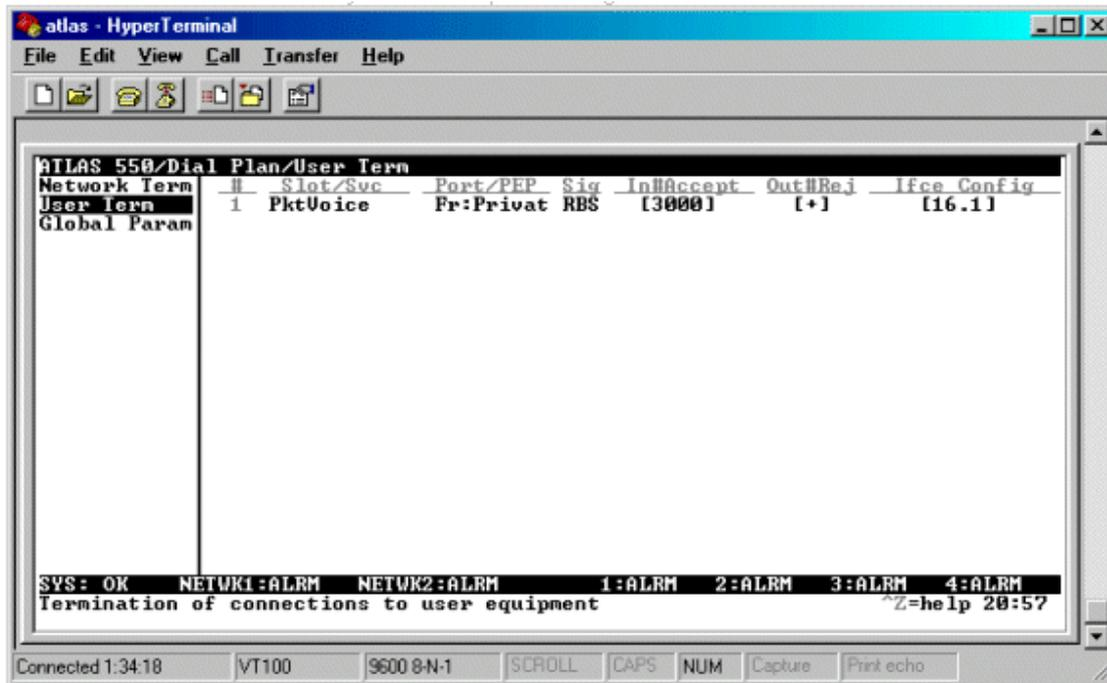

Figure 14
10. Press >esc<: until you are back to the screen shown in **Figure 14**.